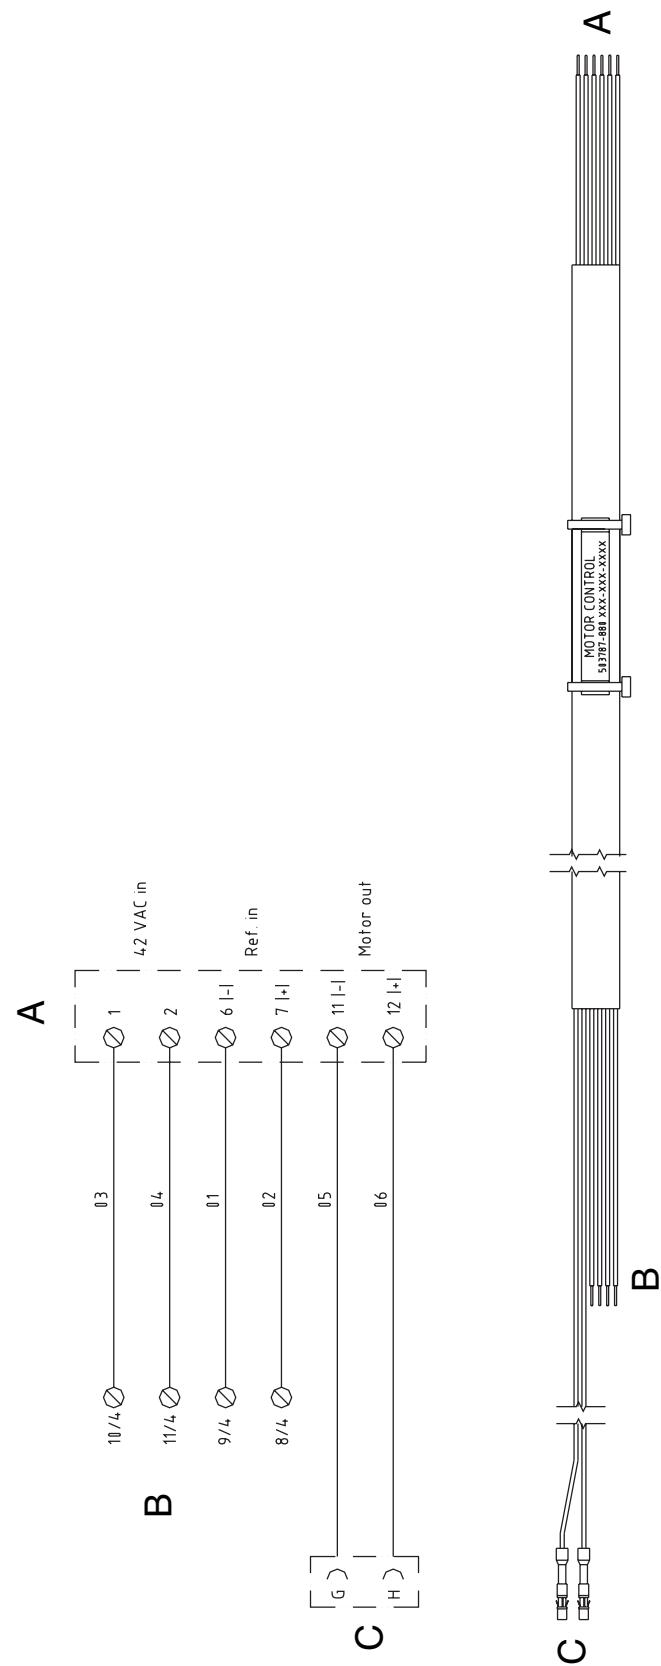

Figure 6 Control cable, DINSE PushPull wire feed unit.
- 2 Connect the wires according to circuit diagram, Figure 6